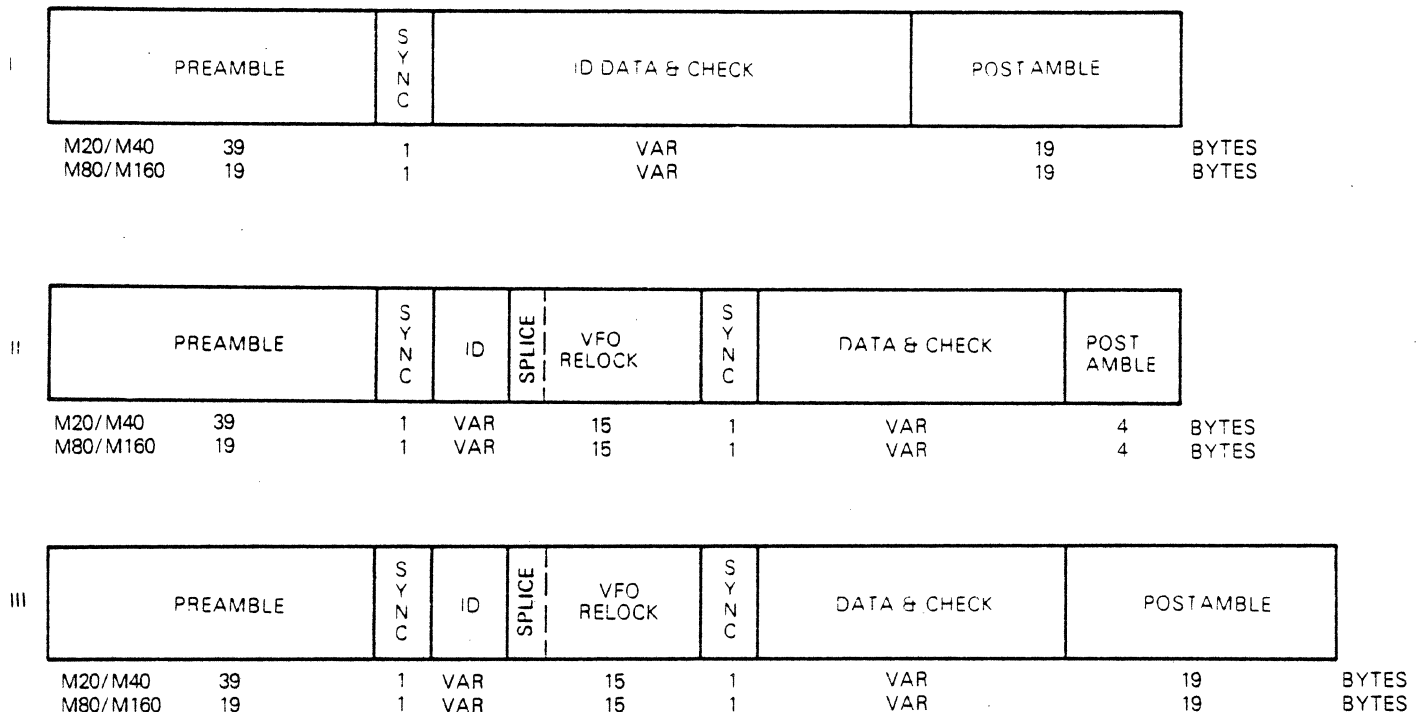

Figure 5-1. Sector Formats
Three different formats have been suggested for MARKSMAN. They are illustrated in Figure 5-1. Format I requires the least amount of overhead. Format II is similar, but separates the header (ID) field from the data, allowing the data to be updated without rewriting the header. They are both designed for sequential oper-